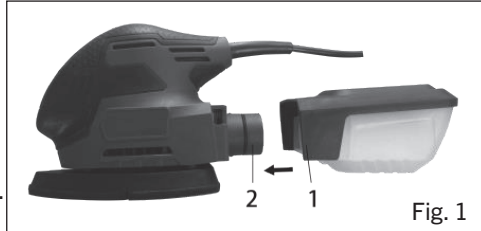

Fig. 1
1. Insert the dust box assembly (1) onto the dust chute (2) (Fig. 1).